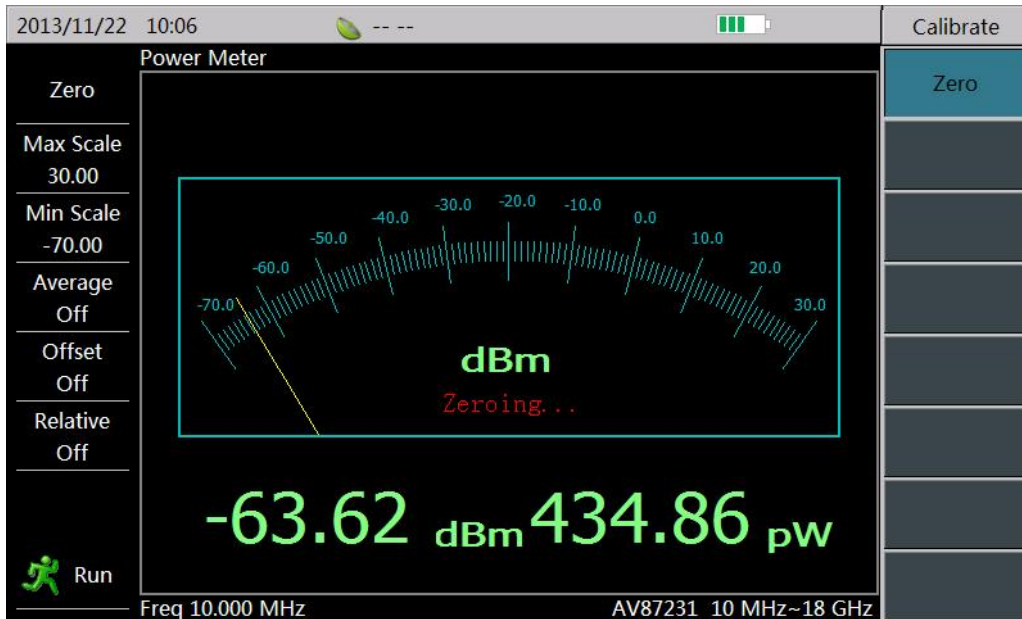

Figure 4-7 Power Meter Calibration
- Click [Zero] menu, the screen will indicate “Zeroing...”; “Zero Success!” in a few seconds to indicate zero calibration is completed. As shown in Figure 4-7: